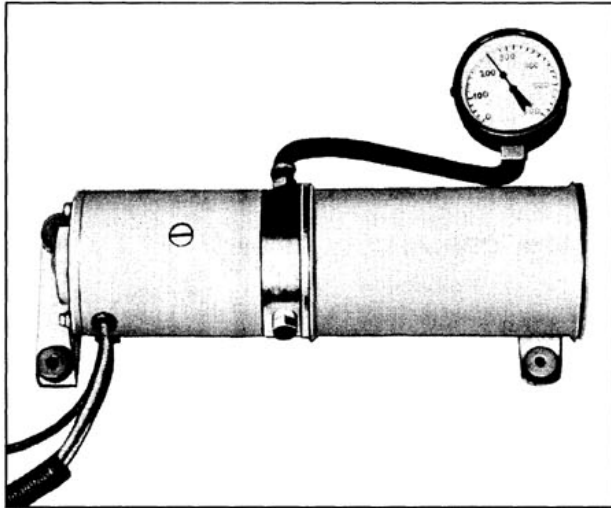

Fig. 16-160 Checking Pump Pressure
2. Install plug in one port, and pressure gauge in port to be checked. (Fig. 16-160)